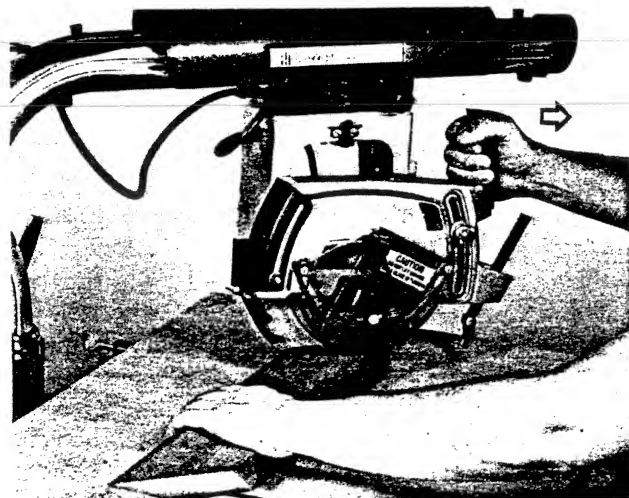

Figure S3
3. Turn the motor "ON". Pull saw forward (Figure S3) only the distance necessary to cut through the material, and then return saw to back of fence. Turn motor "OFF".